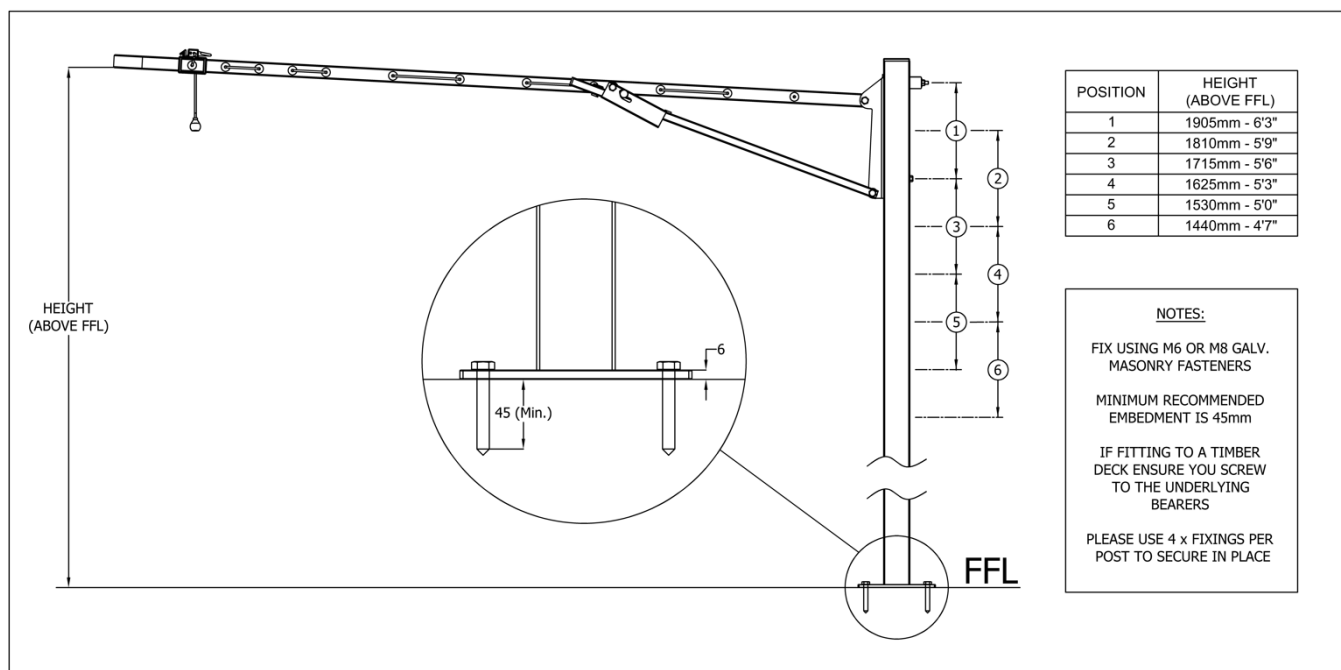

Fig. 9 Installation of Plated Post GMK.
- Install the plated GMK as per the below image (Fig 9) at 2,400mm centres.